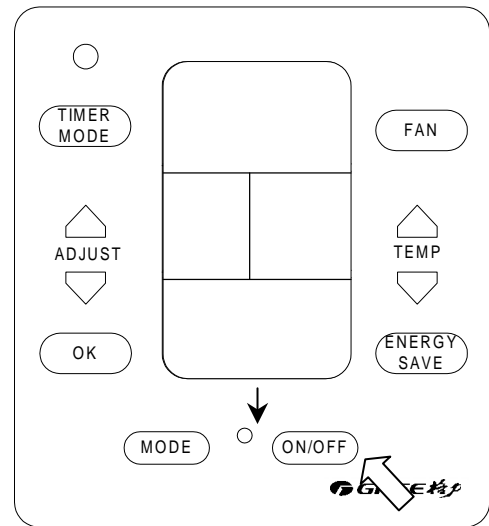

Fig.4
- ❖ Press the “ON/OFF” switch again, then the air conditioner will stop operating and the operation lamp will go out (Fig.4).